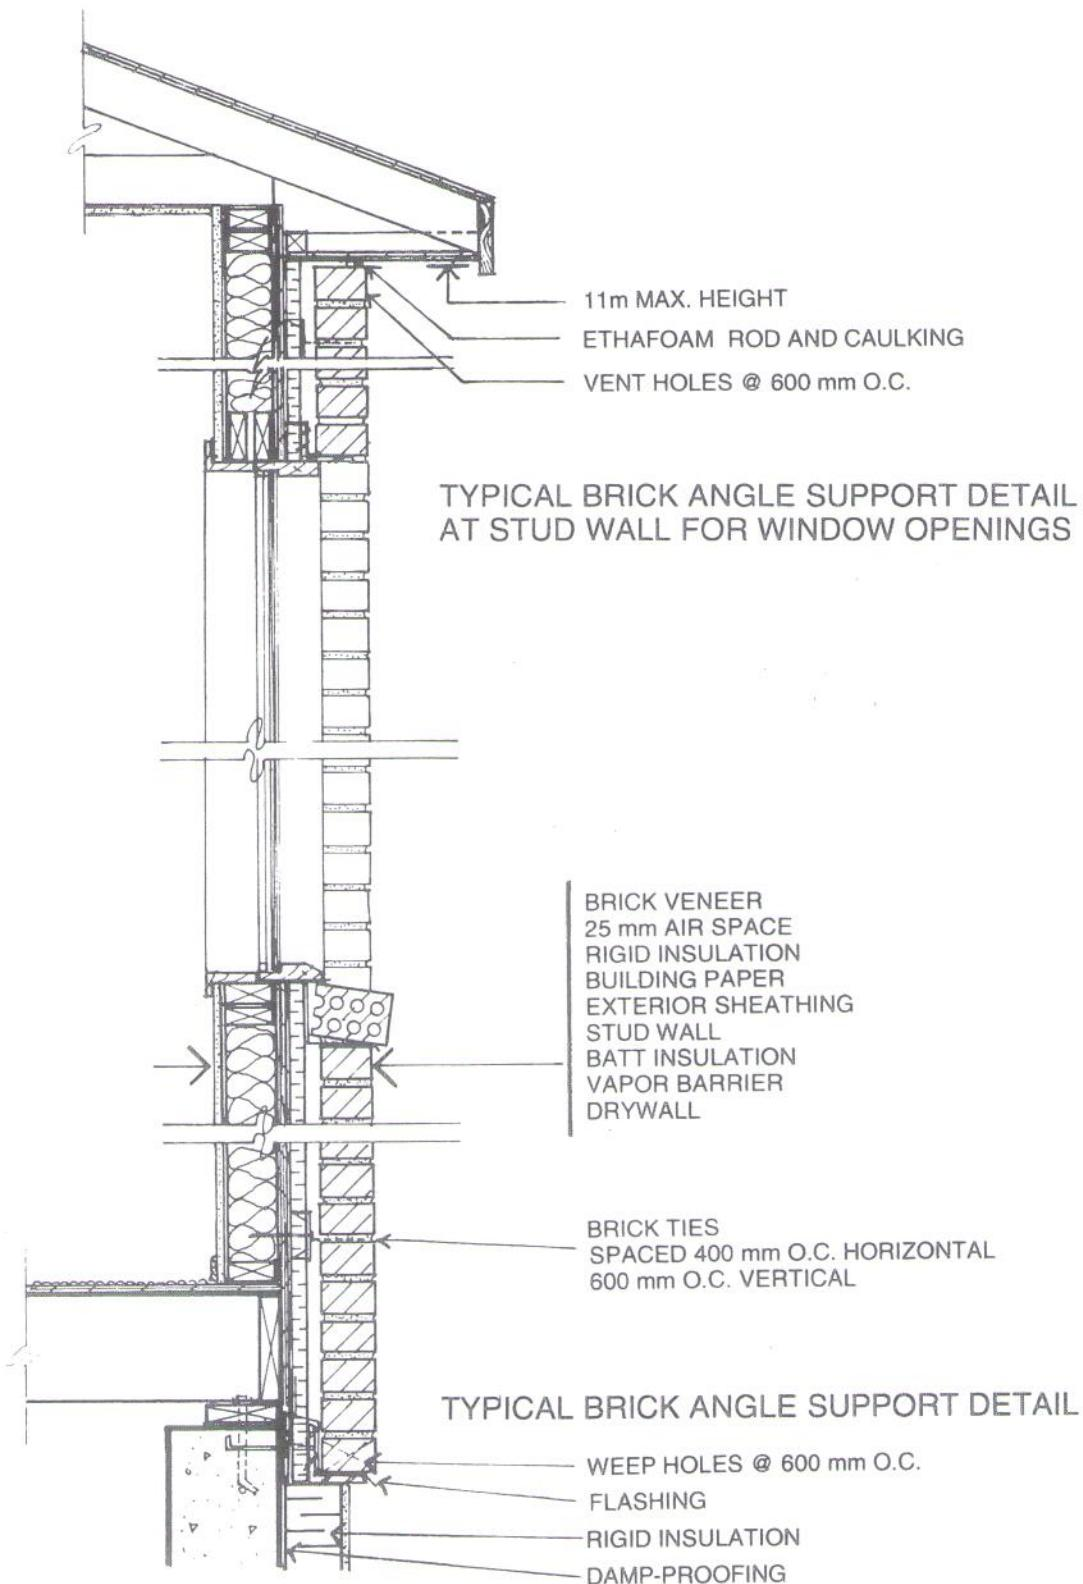

Figure 8 Typical wall section
- Figure 8 Typical wall section